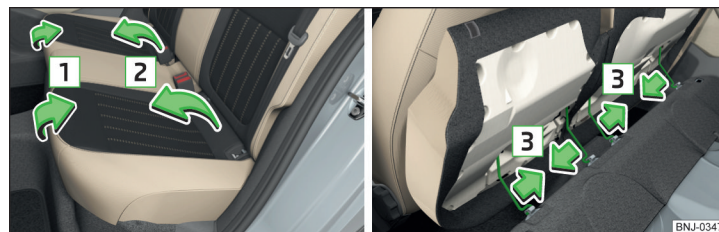

Fig. 72 Fold rear seat forward / remove split rear bench seat
- To **fold**, pull up the bench in the direction of arrow **1** and fold down in arrow direction **2** » Fig. 72.